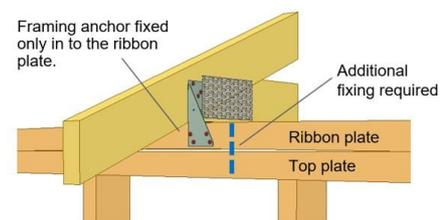
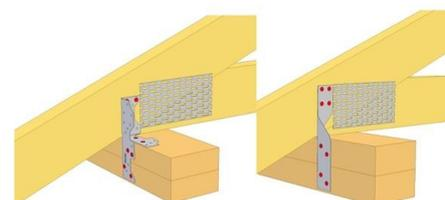

Fig 2a - top plate is not engaged unless additional fixing provided
Fig 2b - Long multigrips or unities used to engage top plate
**Wall Plates:** Fixing of truss tie-down connectors to ribbon plates without engaging the top plate is another example of things that get overlooked on site. There is a misconception that as long as the wall plates (both ribbon and top plates) are tied-down to studs, the connection will be compliant. As illustrated in Fig 2a, fixing a connector only to the ribbon plate results in the top plate being ineffective in resisting the uplift loads unless an additional connector (e.g. batten screw) is provided to fix the two wall plates together at every truss location. Alternatively, a connector that can engage both plates may be used, e.g. cyclone straps, long multigrips or unities (Fig 2b).